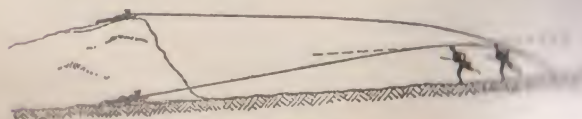

FIG. 4.
- (a) The nearer the weapon is to the ground (Fig. 4).